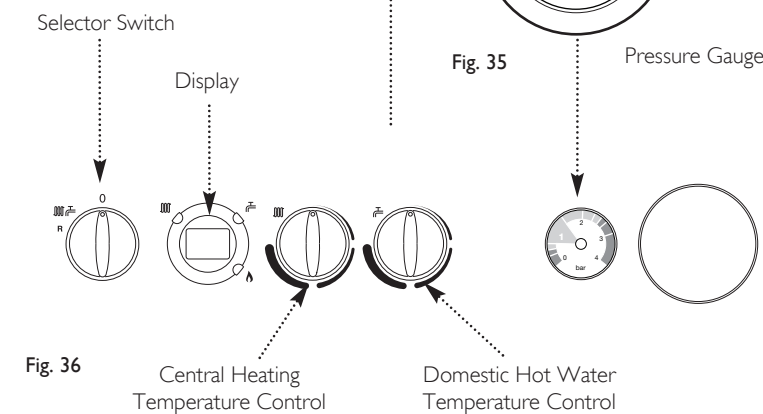

Fig. 36
- Turn both control knobs (Fig. 36) fully anticlockwise, then quickly turn the right hand knob 1/4 clockwise twice and back fully anticlockwise.